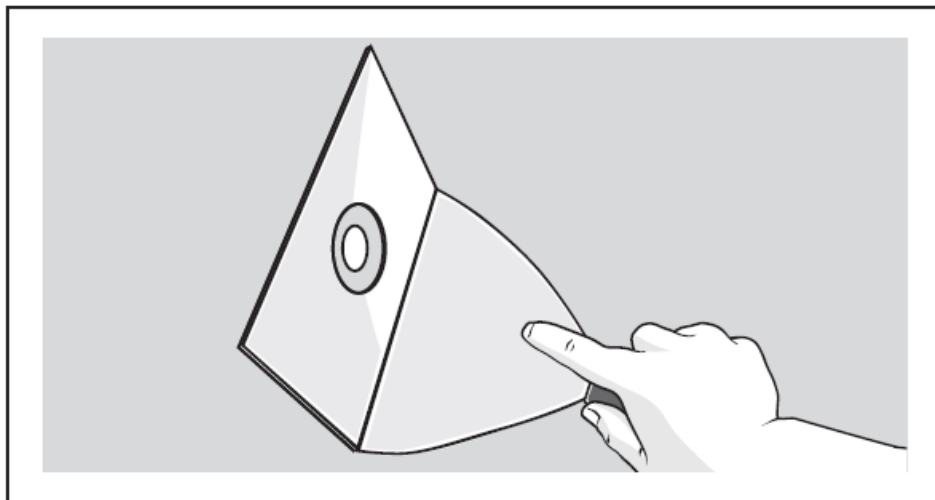

FIGURE 12 FIX BASE COAT APPLICATOR OVER EPOXY FILLED SCREW HEAD
7. Apply Hardie™ Base Coat over epoxy using the base coat applicator. See Figures 12, 13, and 14.